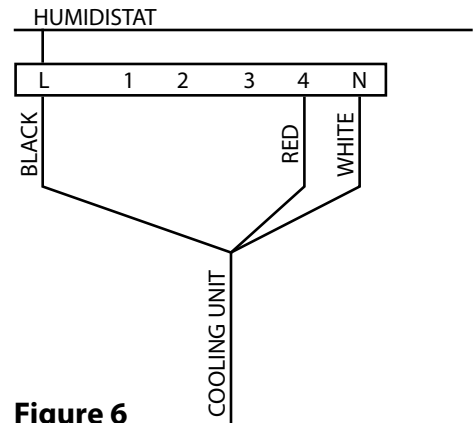

Figure 6
1. Connect the electrical wires to the corresponding terminals on the terminal block following the circuit diagram inside the top cover of the unit. **See Figure 6**